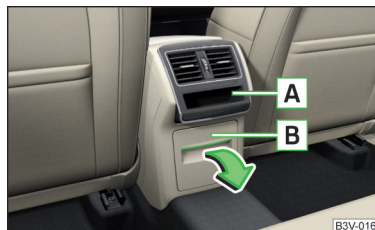

Fig. 125
In the rear centre console there is an equipment-dependent open storage compartment **[A]** and a lockable storage compartment **[B]** » Fig. 125.
- To **open**, pull the storage compartment **[B]** on the upper part of the recess and fold down the compartment in the direction of arrow » Fig. 125.